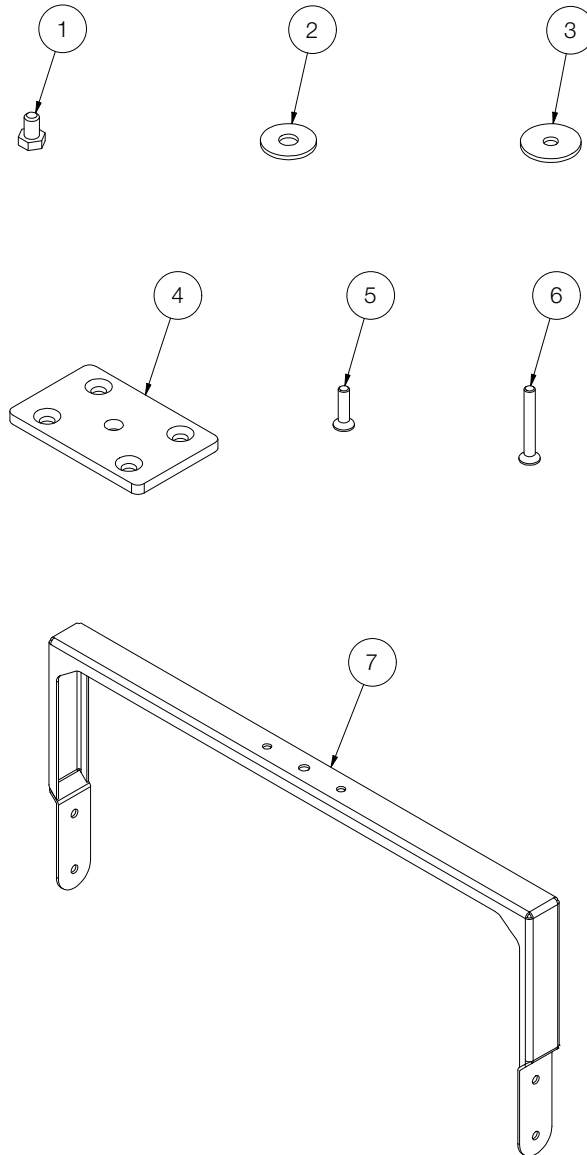
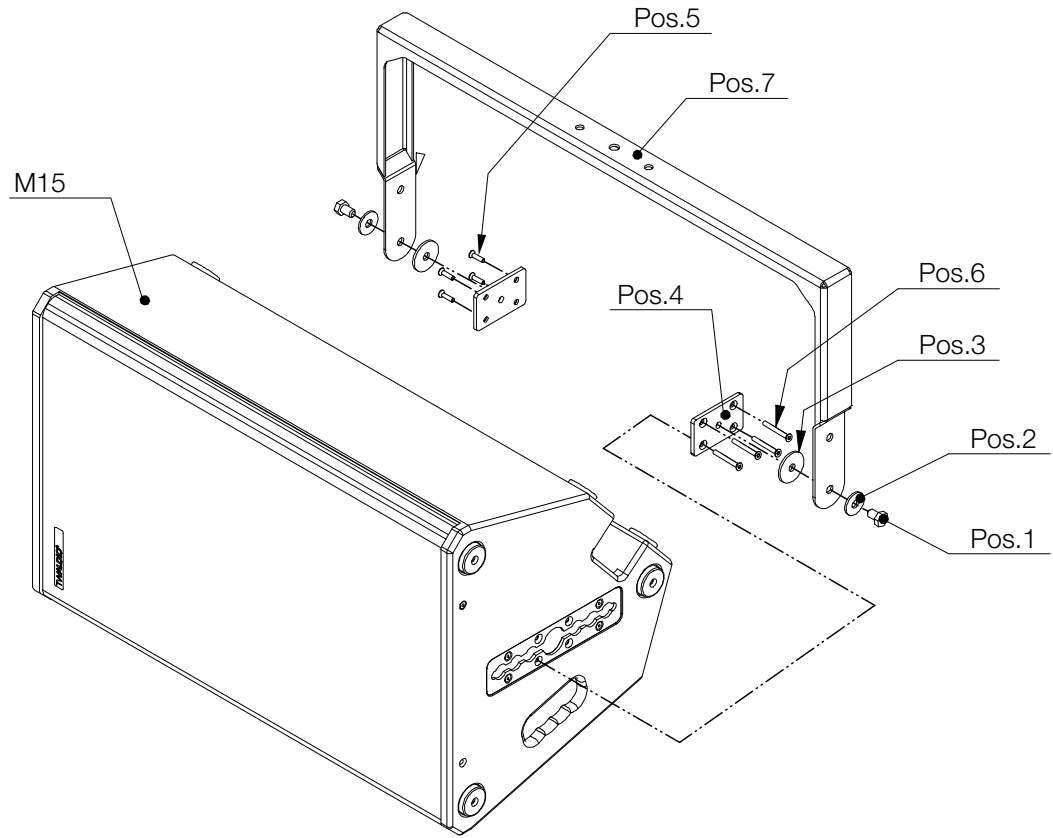

Figure 2.1 - Overview
Figure 4.4.2 - Assembly QBM15 to M15 loudspeaker
Mount positions 1 to 6 (see figure 2.1) on both sides as shown in figure 4.4.2. Note that at pos.7 (see figure 2.1) one of the side holes is used.